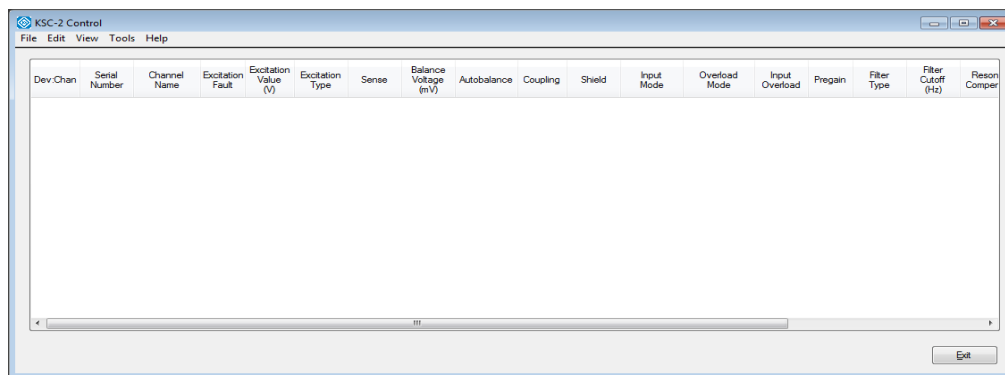

Figure 27 Initial KSC-2 Control Screen (Partial)
- Step 2** From the Windows Start, All Programs menu, click the KSC-2 icon to start the GUI program. Figure 27 shows what the start-up screen looks like the first time you open the program.